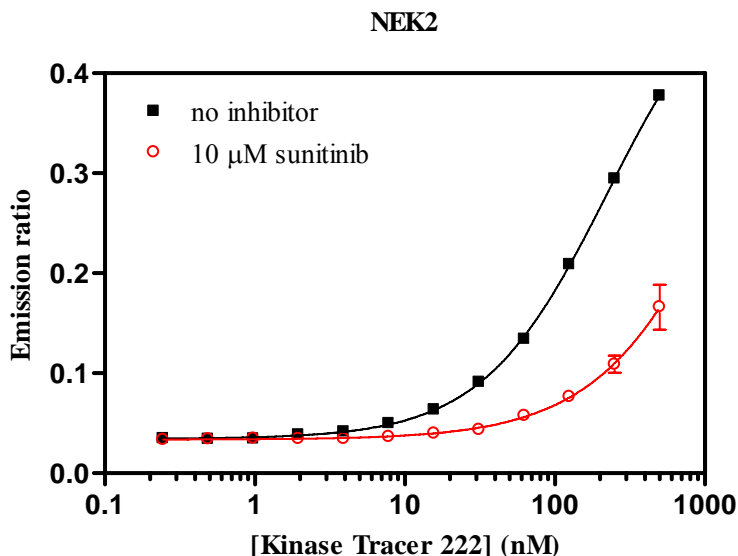

Figure 4. Tracer titration curve.
2. Plot [tracer] versus emission ratio for the competitor (sunitinib) and control (DMSO only) (Figure 4). The sigmoidal dose-response curve with a variable slope can be fit to the data (optional). The following equation can be used with GraphPad™ Prism software: